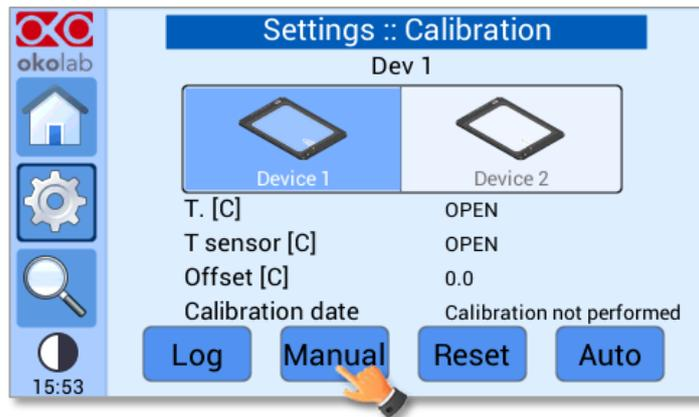

Figure 39. Heating device manual calibration. How to start manual calibration
- 2 Press on *Manual* as shown in Figure 39